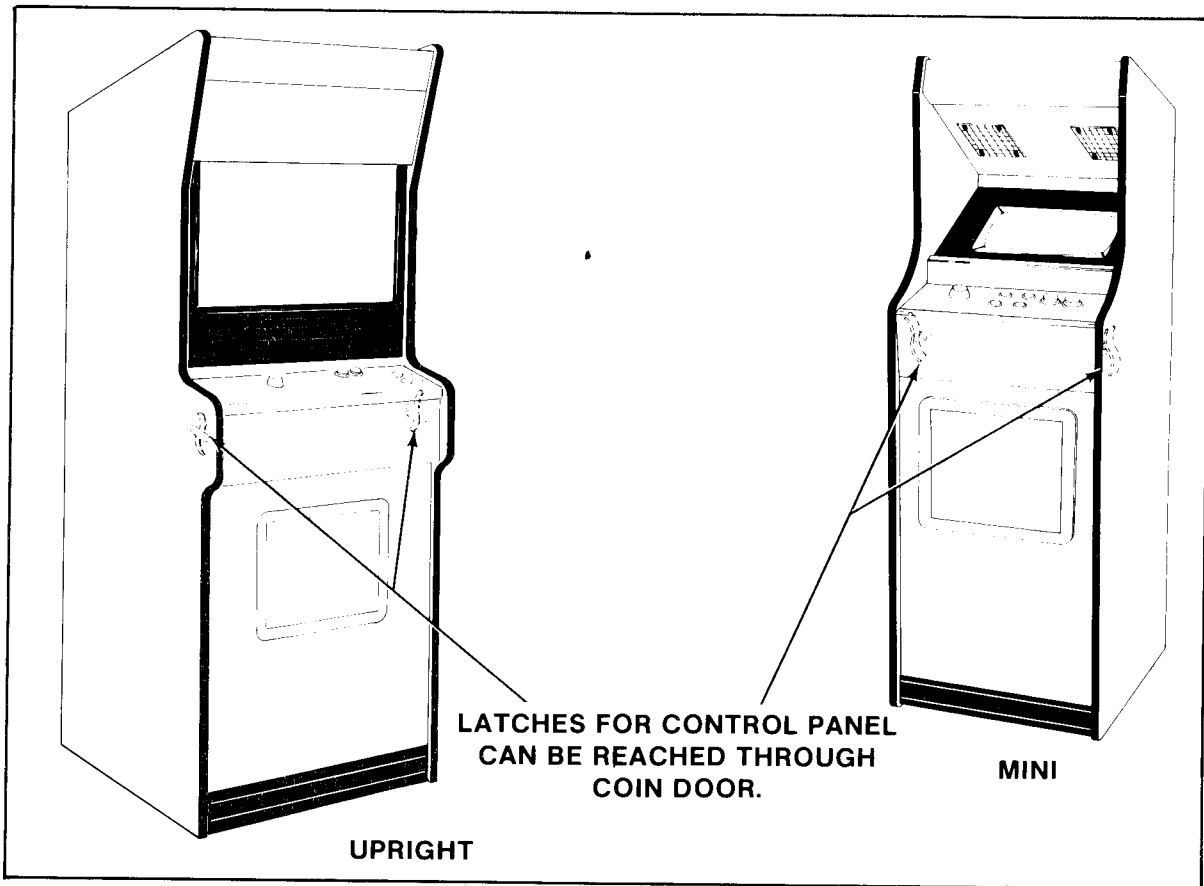

FIGURE 17
C. OPENING THE CONTROL PANEL — See Figure 17.